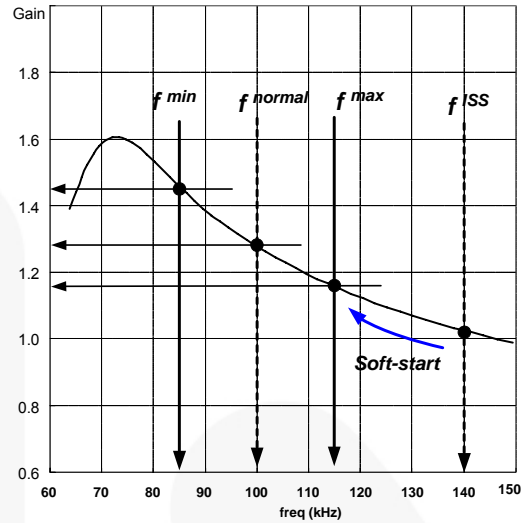
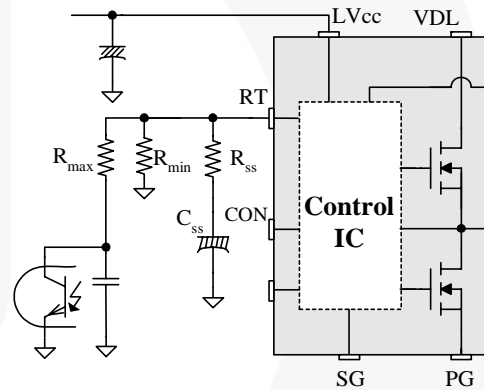
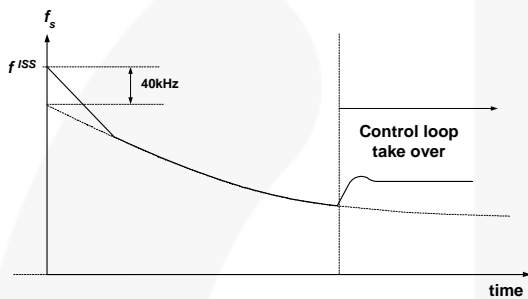

Figure 18. Resonant Converter Typical Gain Curve
Figure 19. Frequency Control Circuit
Figure 20. Frequency Sweeping of Soft-start
3. Frequency Setting: Figure 18 shows the typical voltage gain curve of a resonant converter, where the gain is inversely proportional to the switching frequency in the ZVS region. The output voltage can be regulated by modulating the switching frequency. Figure 19 shows the typical circuit configuration for R_T pin, where the opto-coupler transistor is connected to the R_T pin to modulate the switching frequency.
connecting R-C series network on the R_T pin, as shown in Figure 19. FSFR-series also has an internal soft-start for 3ms to reduce the current overshoot during the initial cycles, which adds 40kHz to the initial frequency of the external soft-start circuit, as shown in Figure 20. The initial frequency of the soft-start is given as: